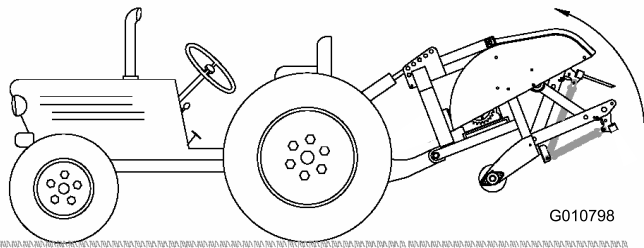

Figure 9
2. Raise the aerator completely and fully retract the top link cylinder or upper link (Figure 9).